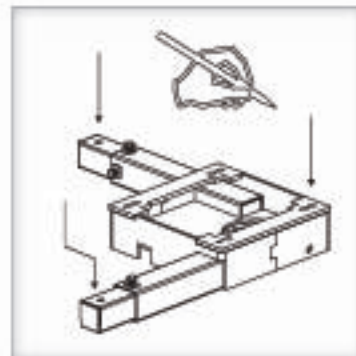

Figure 17-3
5. **Verify that each of the measurements allows full range of motion** within the cargo area and the opening, mark the three locations to drill. [Figure 17-3]